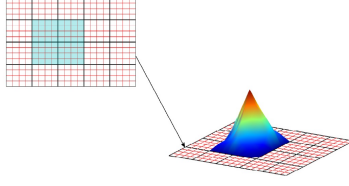

Figure 1: A first example
Our goal is to construct the coarse grid basis functions which can obtain the same accuracy as the fine grid basis functions when solving (1). As the degree of freedom is greatly reduced in the coarse grid, computation saving is provided. Figure 1 shows examples for a coarse grid, a fine grid, and a coarse basis function.